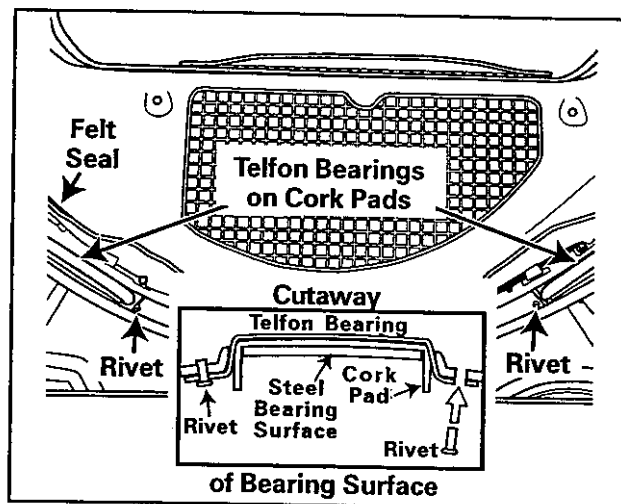

Figure 10-5
3. Drill out the old rivets and rivet new bearings in place. In positioning the bearing and cork pad, the face of the bearing should ride against the tumbler (*Figure 10-5*).